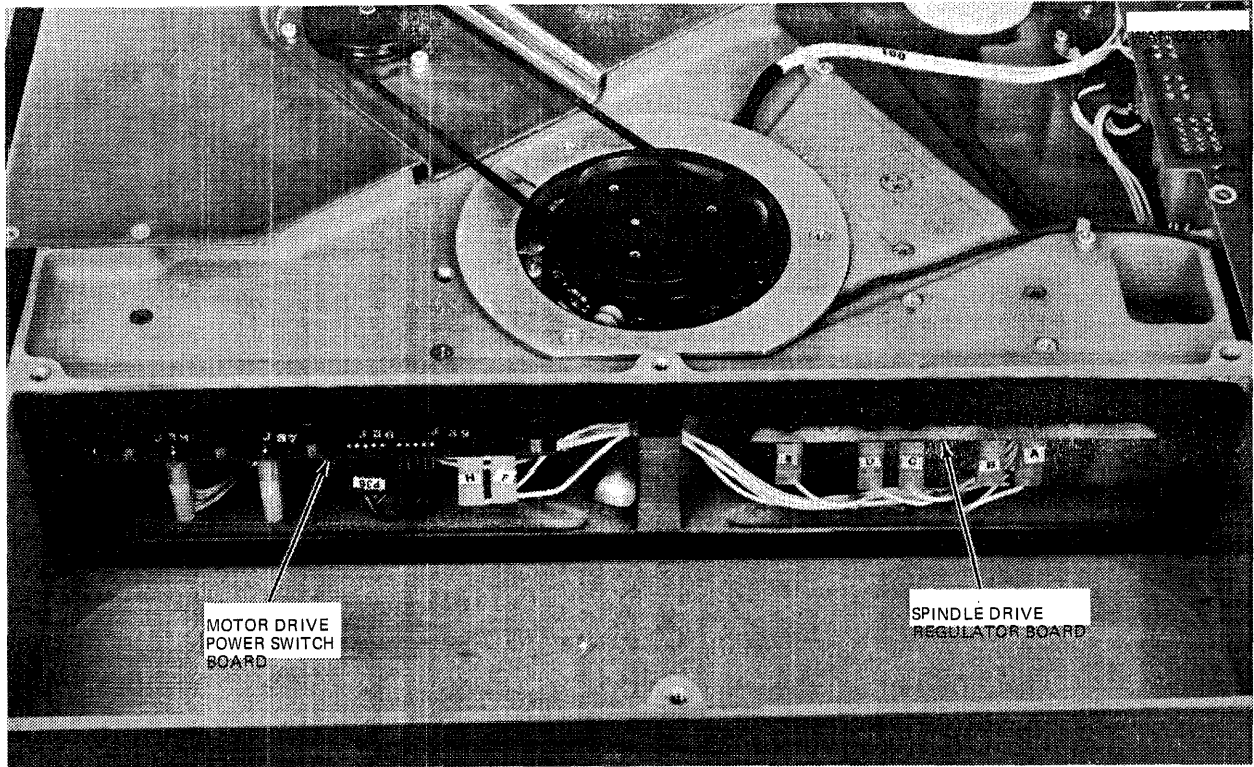

Figure 5-17. Spindle Motor Control Boards
- D. Disconnect the spindle motor plugs from the Power Switch Board located in the plenum chamber (ref. figure 5-17).
5.4.3.4 Motor Drive Power Switch Board. This circuit board is located in the plenum chamber, next to the spindle assembly, and is accessible from the air filter cavity. If the air filter is in place, first remove this component. To remove the Motor Drive Power Switch Board, unplug all electrical connectors from the board. Remove the two 6-32 screws which are available from below the base plate and which are used to mount the heatsink to the casting. The board then may be lifted out of the chamber. Refer to Figure 5-17 for the location of this circuit board. Apply a liberal coating of silicon grease of the base of the heatsink on the Motor Drive Power Board.
5.4.3.5 Spindle Drive Regulator Board. This circuit board is located in the plenum chamber, as shown in Figure 5-17, and is accessible from the air filter cavity. If the air filter is in place, first remove this component. To remove the circuit board, disconnect the electrical leads and take out the four 6-32 machine screws that mount the heatsink to the casting. When installing this circuit board, apply a generous coating of silicon grease to the base of the heatsink prior to mounting. This is necessary to ensure adequate heat transfer to the casting.